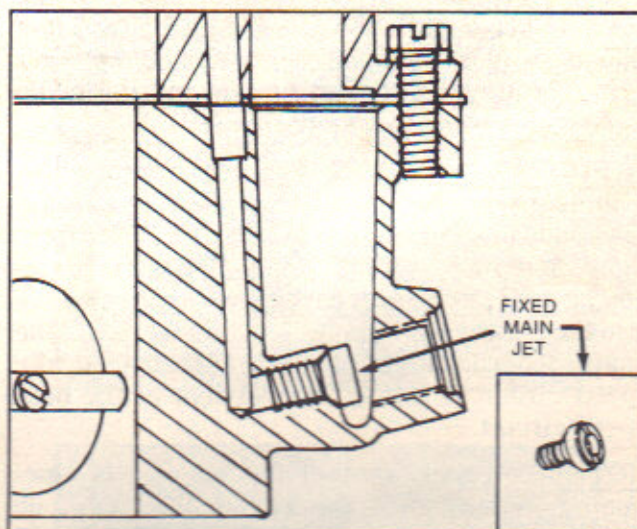

Figure 2
There are two (2) fixed jets available, each differing in orifice size. The difference in orifice size allows for a change of fuel flow to compensate for a major change in altitude, insuring satisfactory engine performance, figure 2.